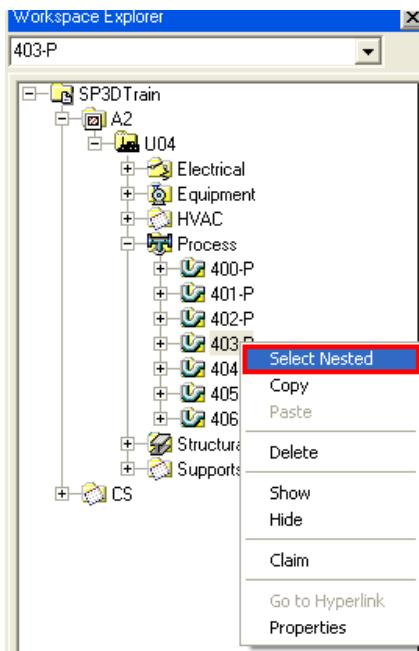

Figure 15. 2: Workspace Explorer Window
3. Right-click the pipeline system **403-P** and click the **Select Nested** command in the menu, as shown in Figure 15. 2, to select all the piping objects in the graphic view.